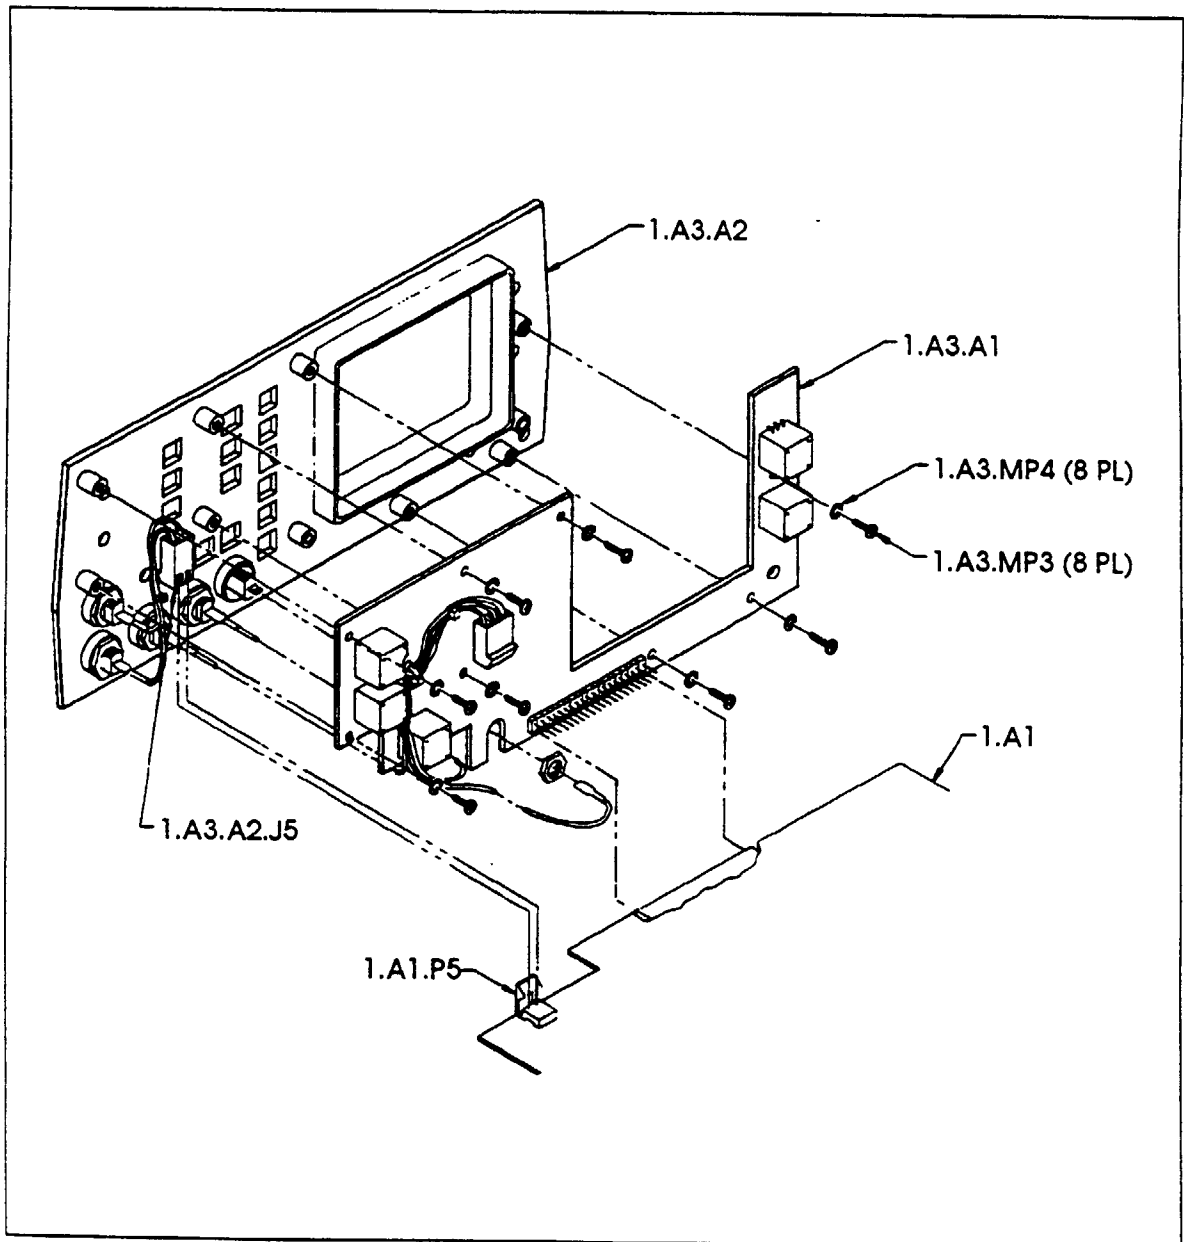

Figure 4-7. Control PCB Removal.
3. Disconnect two pin connector (1.A3.A2.J5) from the Main PCB assembly (1.A1). See Figure 4-7.
Refer to Figure 4-7.